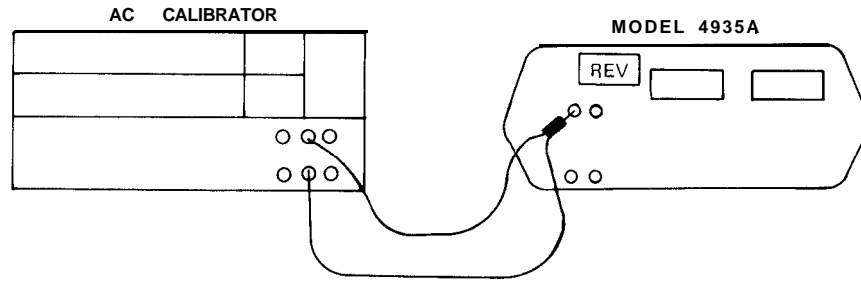

Figure 4-6. Impulse Noise DAC Test
1. Connect equipment as shown in Figure 4-6.